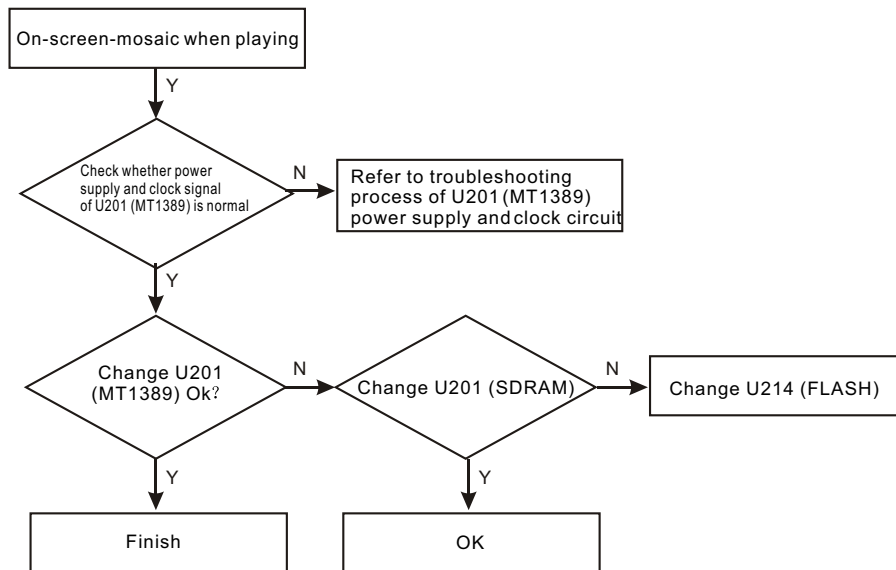

Figure 3.2.10.4 Flow chart of “On-screen-mosaic when playing”
(3) Troubleshooting process for "No colour of picture" is shown as the following figure 3.2.10.5: